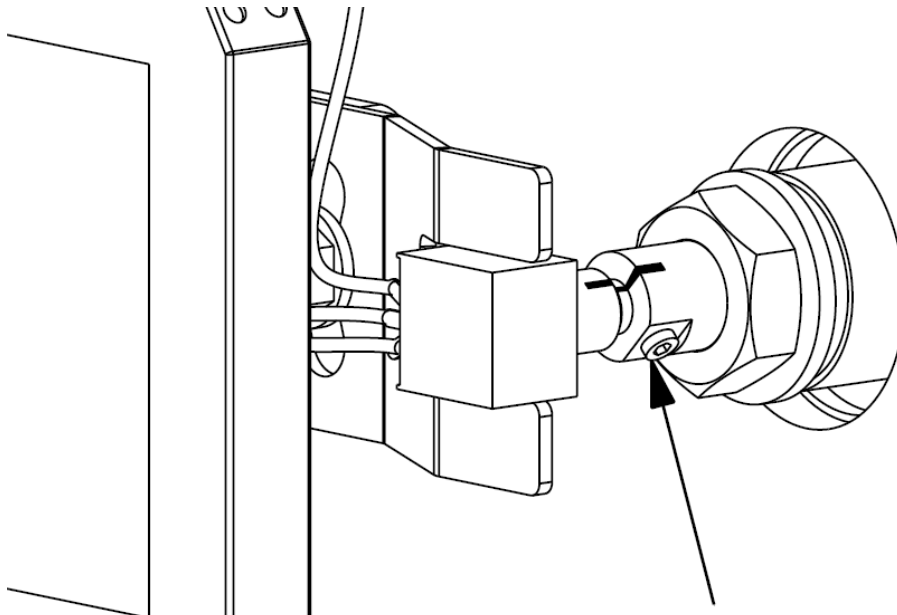

Figure 7-11: Removal of potentiometer
30. Install the potentiometer set screw and secure it in place. Reference **Figure 7-11**.